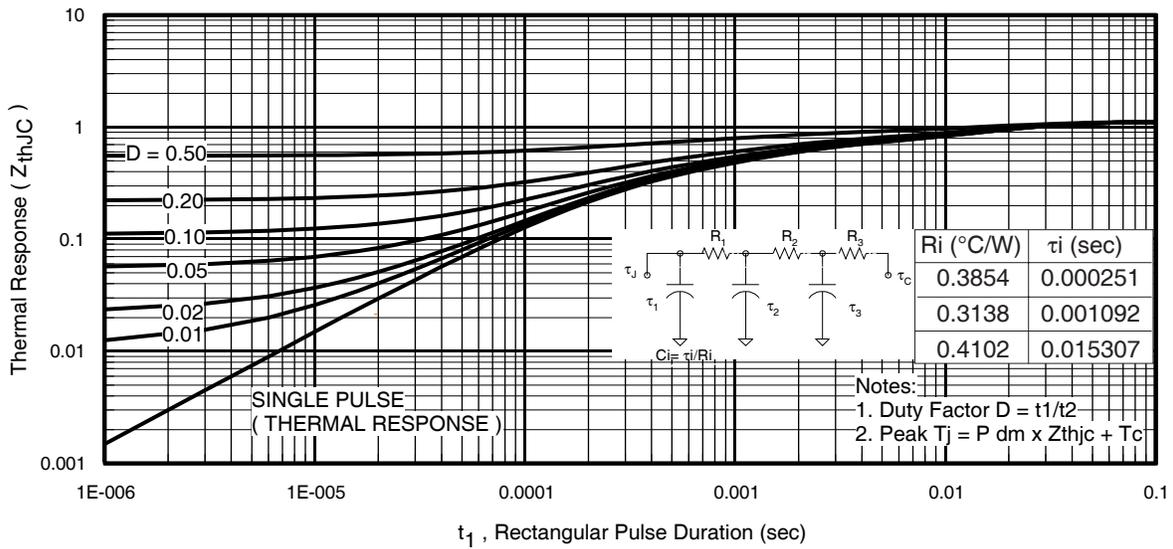
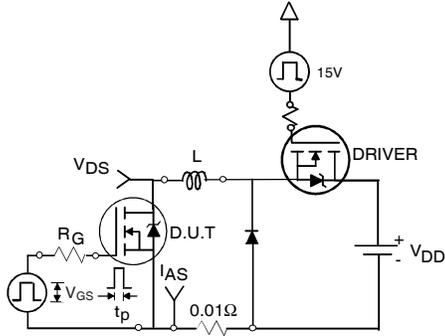

Fig 11. Maximum Effective Transient Thermal Impedance, Junction-to-Case
Fig 12a. Unclamped Inductive Test Circuit
| I_{AR} | Avalanche Current ① | See Fig.12a, 12b, 15, 16 | A |
3. Equation below based on circuit and waveforms shown in Figures 12a, 12b.
$Z_{thJC}(D, t_{av})$ = Transient thermal resistance, see figure 11)
- ① Repetitive rating; pulse width limited by max. junction temperature. (See fig. 11).
- ② Limited by T_{Jmax} , starting $T_J = 25^\circ\text{C}$, $L = 0.13\text{mH}$, $R_G = 25\Omega$, $I_{AS} = 42\text{A}$, $V_{GS} = 10\text{V}$. Part not recommended for use above this value.
- ③ Pulse width $\leq 1.0\text{ms}$; duty cycle $\leq 2\%$.
- ④ C_{OSS} eff. is a fixed capacitance that gives the same charging time as C_{OSS} while V_{DS} is rising from 0 to 80% V_{DSS} .
- ⑤ Limited by T_{Jmax} , see Fig.12a, 12b, 15, 16 for typical repetitive avalanche performance.
- ⑥ This value determined from sample failure population. 100% tested to this value in production.
- ⑦ When mounted on 1" square PCB (FR-4 or G-10 Material). For recommended footprint and soldering techniques refer to application note #AN-994
- ⑧ R_θ is measured at T_J approximately 90°C